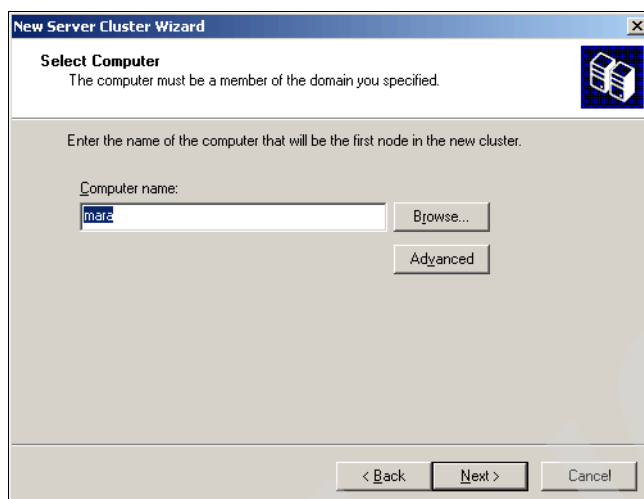

Figure 23-42 Select computer
5. In Figure 23-42, enter the name of the computer where the cluster service needs to be installed. This is only required when the cluster administrator is running on a management station system and not directly on the first cluster node. The server cluster wizard will add the local host name already in this dialog. Click **Next**.